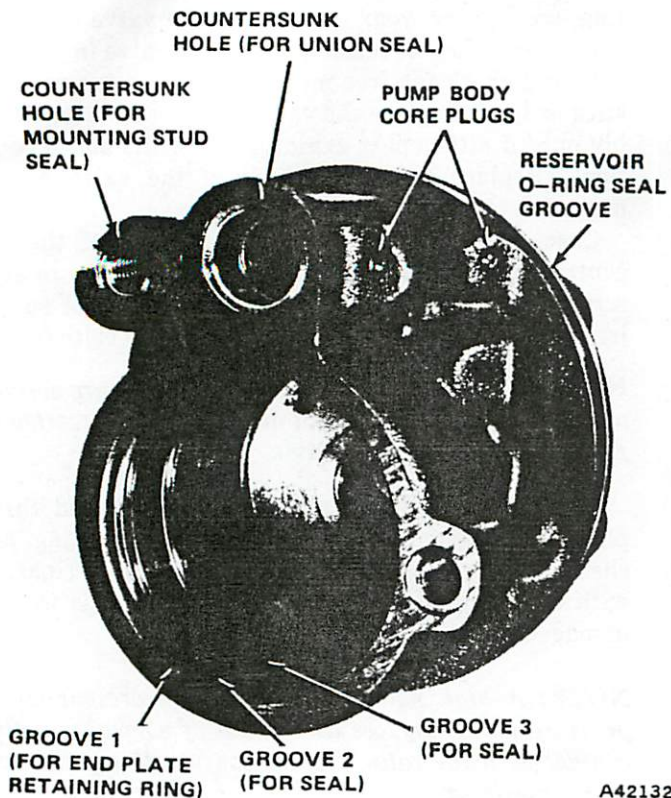

Fig. 2L-55 Pump O-Ring Seal Locations
- (3) Install dowel pins in thrust plate (fig. 2L-56).